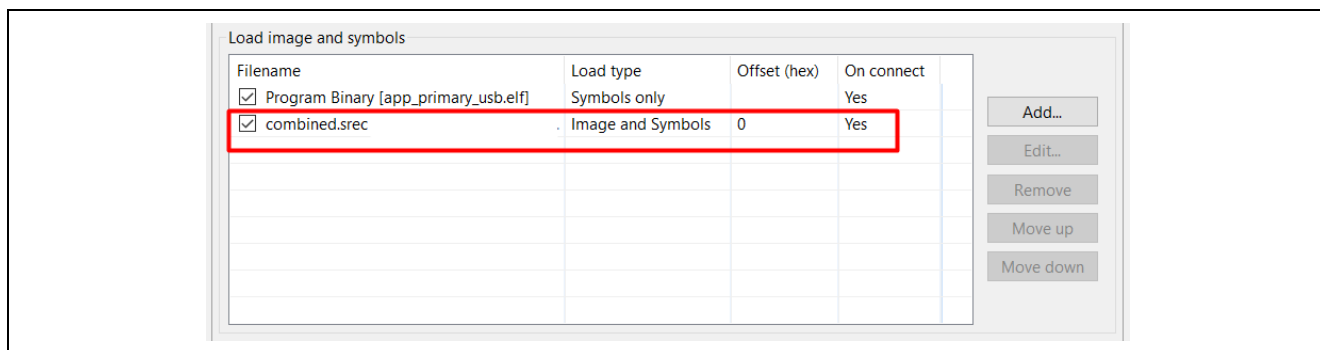

Figure 69. The result of the combined.srec file is added to Debug Configuration
- The result of the **combined.srec** file is added to the **Debug Configuration** as shown in Figure 69.